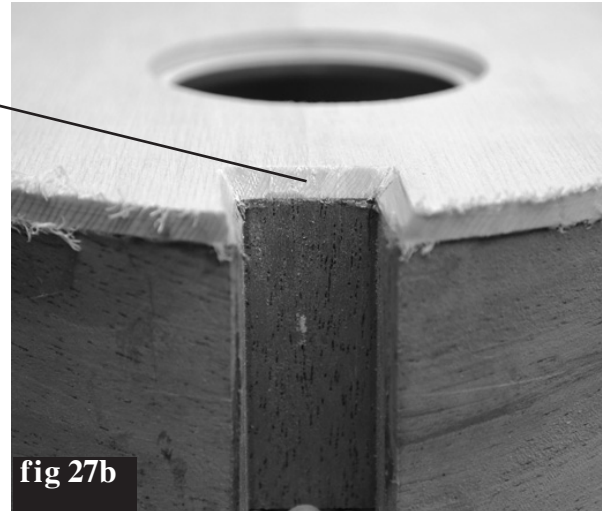

fig 27b
27. Use a flat file or razor knife to finish cleaning out the notch in the heel block, as shown in figures 27a and 27b. Note how we beveled the edges of the spruce top (fig 27b). This will help make sure the neck seats fully into the mortise slot.